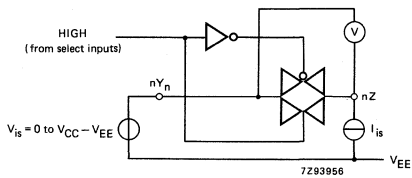

Fig. 8 Test circuit for measuring R_{ON} .
2. For test circuit measuring R_{ON} see Fig. 8.